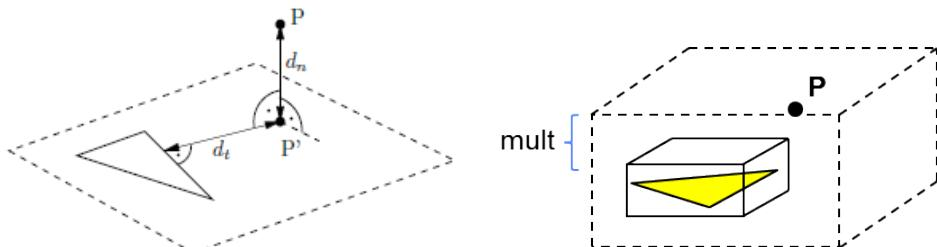

Figure 5: a)Normal distance d_n and tangential distance d_t for a point P b) Multiplicity factor parameter
- Normal distance and Tangential distance (for surface meshes): searching distance for the closest element in normal and tangential direction (Figure 5).
- Multiplicity: parameter to control the search distance (Figure 5).